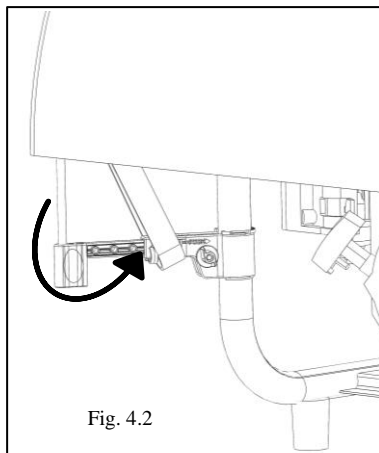

Fig. 4.2
- d. Slide one corner elastic under the clamp telescoping rod and set between the knob and the molded ring pin. (Fig. 4.2)